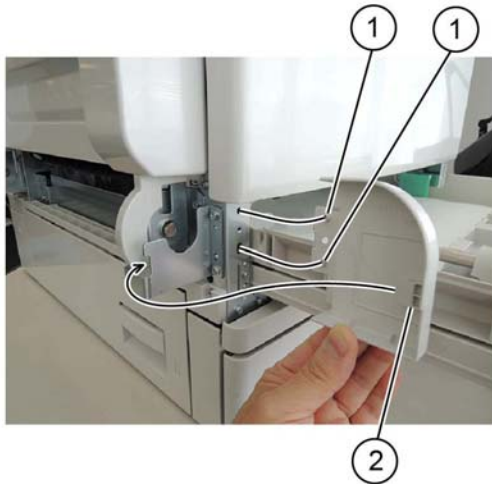

Figure 2 Hinge front cover removal
3. Pull out the bossed (1) from the mounting holes. Release the hook (2), then remove the hinge front cover, **Figure 2**.